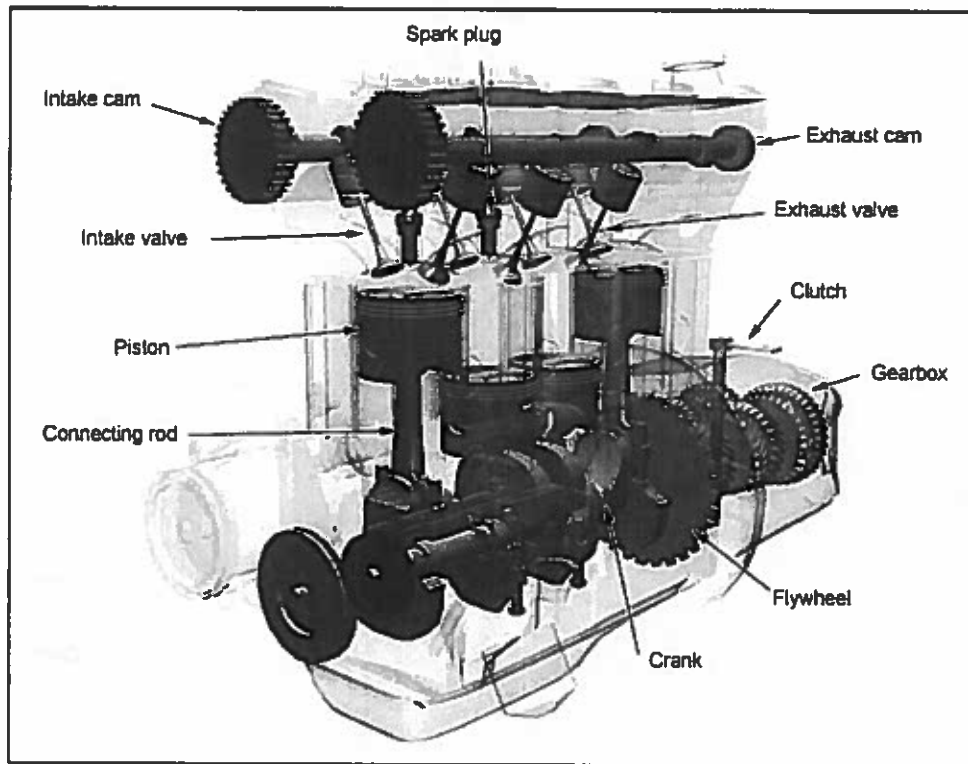
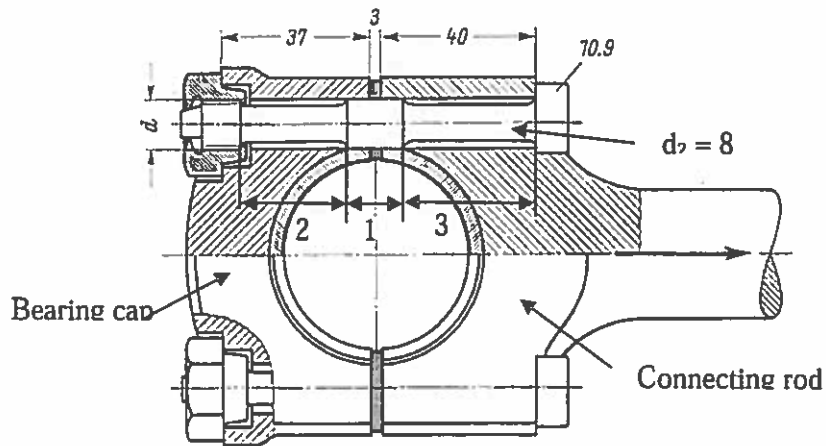

Figure 2 - Typical Four Cylinder Internal Combustion Engine.
Figure 3 - Connecting Rod Drawing
In Figure 2, a drawing of a typical four-cylinder internal combustion (IC) engine is given. The four pistons drive a crankshaft through the connecting rods. In Figure 3, a picture of a typical connecting rod is given. In Figure 4, a detailed drawing is given of one of the connecting rod connection to the crankshaft.
As you see in Figure 3, two bolts connect the bearing cap to the connecting rod.